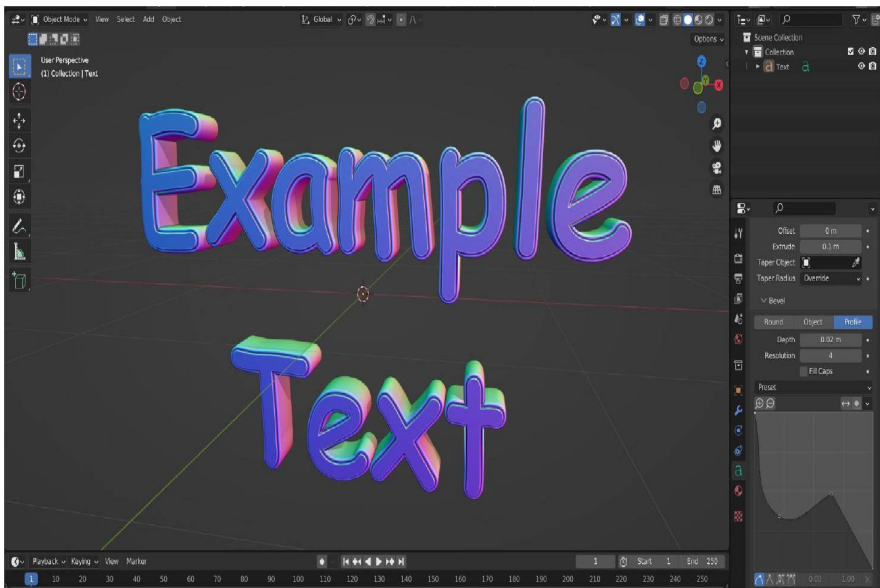

Figure 5.21: Example 3D Text object extruded 0.1m in the Comic Sans font with a custom Bevel Profile
12. To change the Bevel Profile from flat to something more interesting like a routed edge, click along the diagonal line to add one or more points to the Profile curve, and then click and move each point, or choose from one of the available Presets in the drop-down, observing the resulting effect on the Text object as shown in *Figure 5.21*:
Tip: Many of the figures throughout this book – such as Figure 5.21 – show 3D objects in a colorful Viewport Shading mode called a MatCap. MatCaps are preset surface shading modes that fake lighting, shading, and color, which is very useful for visualization. MatCaps are not exported with 3D objects, do not alter textures or materials, and do not appear in renders (2D images) made with 3D cameras.
To enable different MatCaps, click the down arrow appearing to the right of the Viewport Shading options in the upper right of the 3D Viewport, switch Lighting from Studio to MatCap, and click on one of the colorful spheres there. To add the faked shadows and highlights as shown in Figure 5.21, enable the options for Shadow and Cavity below the panel of spheres.